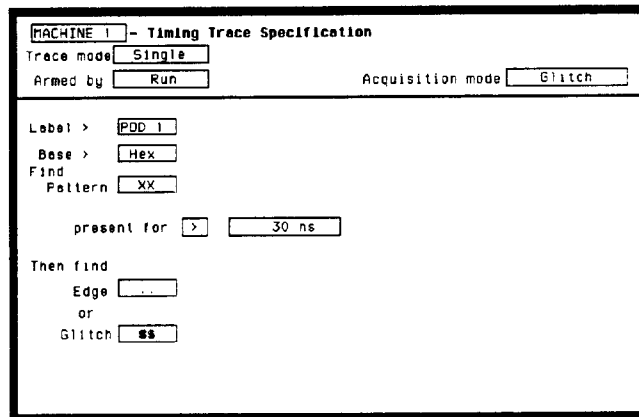

Figure 3-34. Glitch Test Timing Trace Specification
5. Set **Timing Trace Specification** as in figure 3-34. Follow steps a through d if you are unfamiliar with menus.